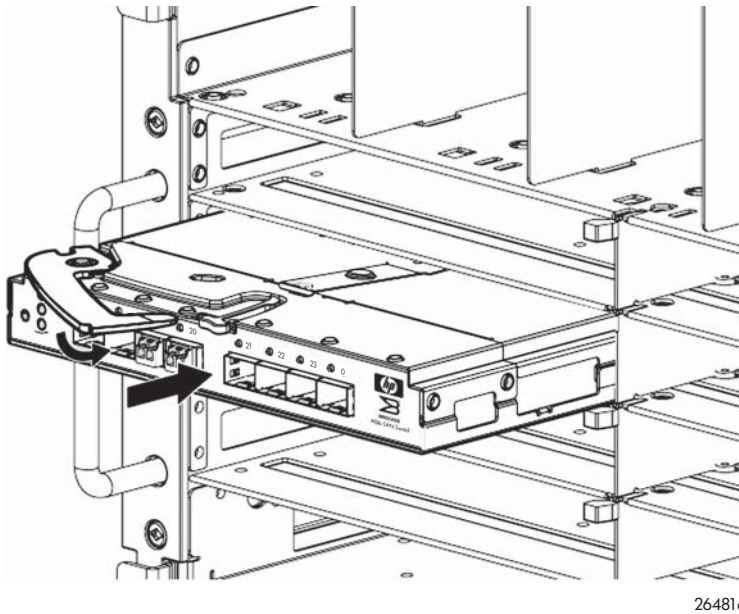

Figure 5 Installing the Brocade 8Gb SAN Switch into an interconnect bay
4. Align the Brocade 8Gb SAN Switch with the appropriate interconnect bay according to your enclosure's specific configuration. Push the switch firmly into the interconnect bay. See Figure 5.